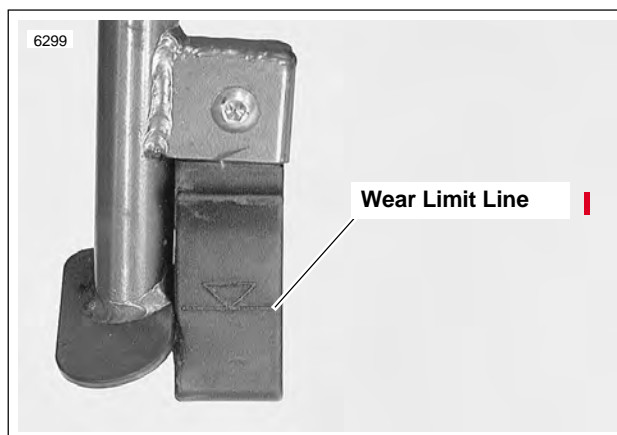

Figure 2-121. Side Stand Dragger Wear Limit
1. Replace dragger when worn to wear line shown in Figure 2-121.